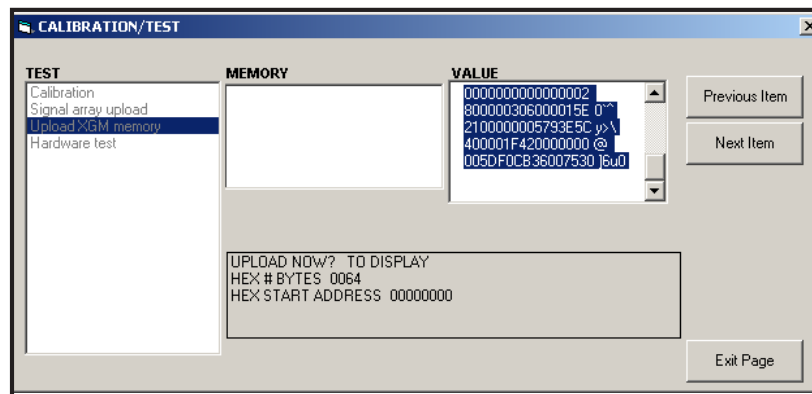

Figure 14: XGF868i Memory Data Displayed on PanaView
- If you double-click on *To Display*, the right pane of the window appears similar to Figure 14, and the data is available for immediate evaluation. Click [Exit Page] to close the window and return to the *Calibration/Test* menu.